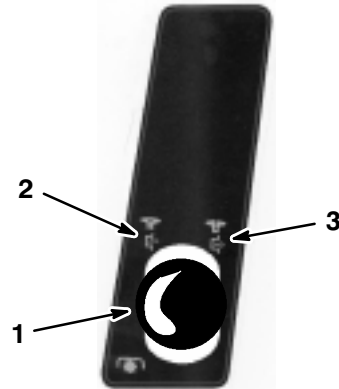

Figure 3
2. Pull the blade control (PTO) out to “ENGAGED” (Fig. 3).
2. Push the blade control (PTO) in to “DISENGAGED” (Fig. 3).